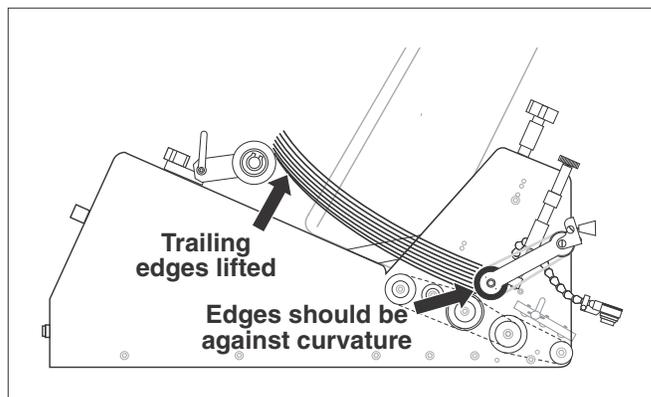

Figure 3-2. Leading Edges Against Gate Bracket Assembly and Side Guides
2. At the back wedge, notice how it helps lift the trailing edges of the material off the table top and feed belts. Also notice how the lifting helps to push the preshingled edges against the curvature of the gate assembly (Figure 3-2).